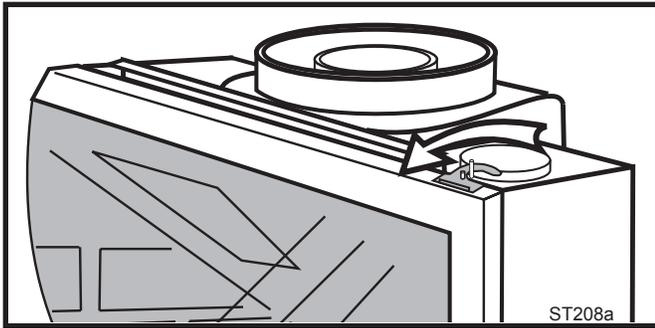

Fig. 60 Release the latches to release the glass frame.
2. Swing open the swiveling latches at the top left and right corners of the glass frame. (Page 31, Fig. 60)